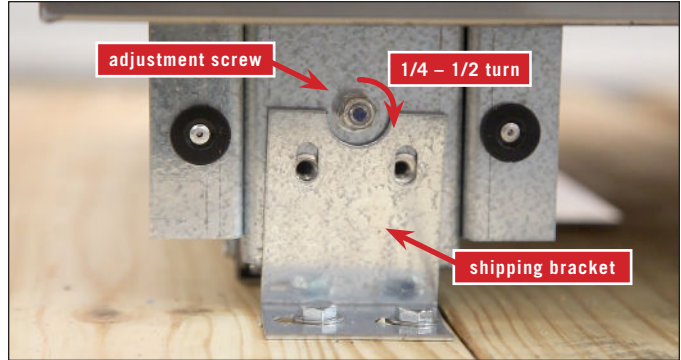

FIG. 9. Adjustment screw location. Other adjustment screw not shown.
6. Slightly raise the rear leveling leg rollers. Turn the front adjustment screw 1/4-1/2 turn clockwise. See fig. 9.